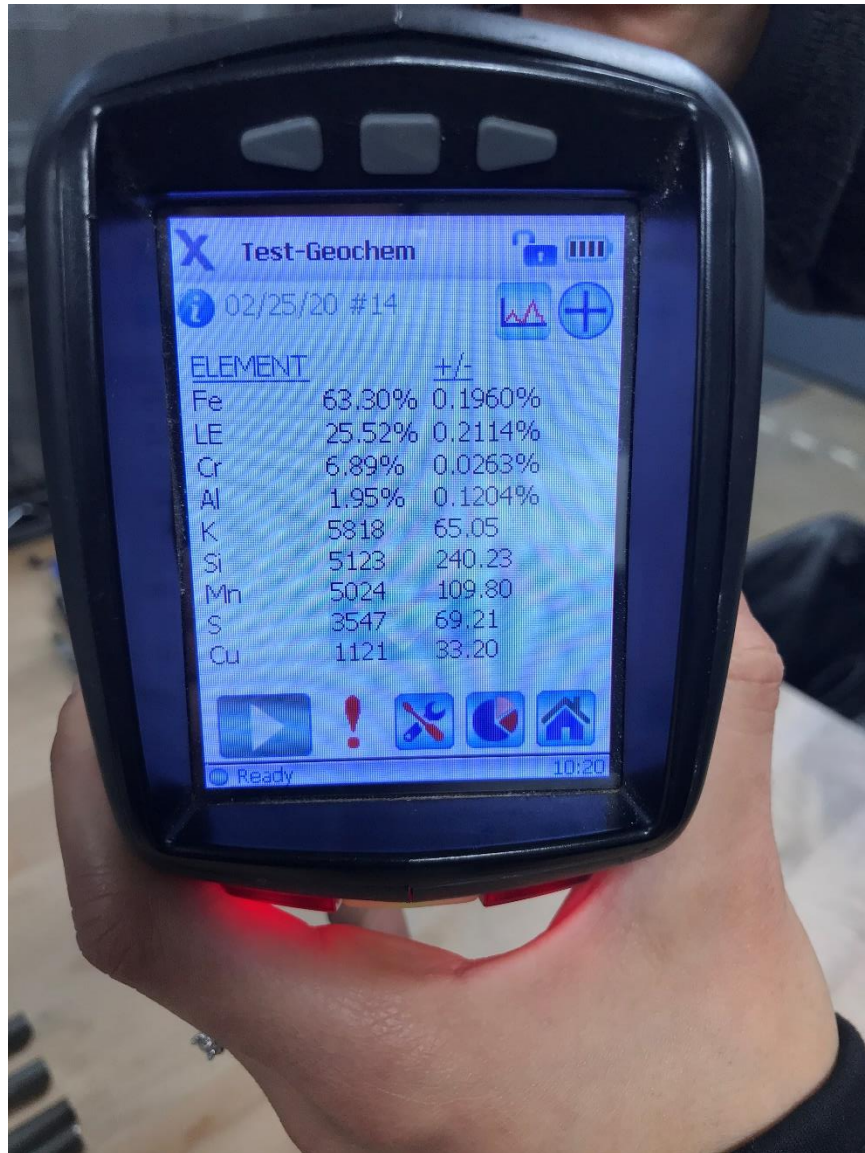

Figure 12
Last of the stainless standards was 416, which is a high temperature-capable stainless steel that is free machining, similar to stainless 303 (due to the addition of sulfur). The elemental makeup of 416 was again primarily constituted of iron (Fe), with a side of sulfur (S) for ease of machining. See Figure 12.